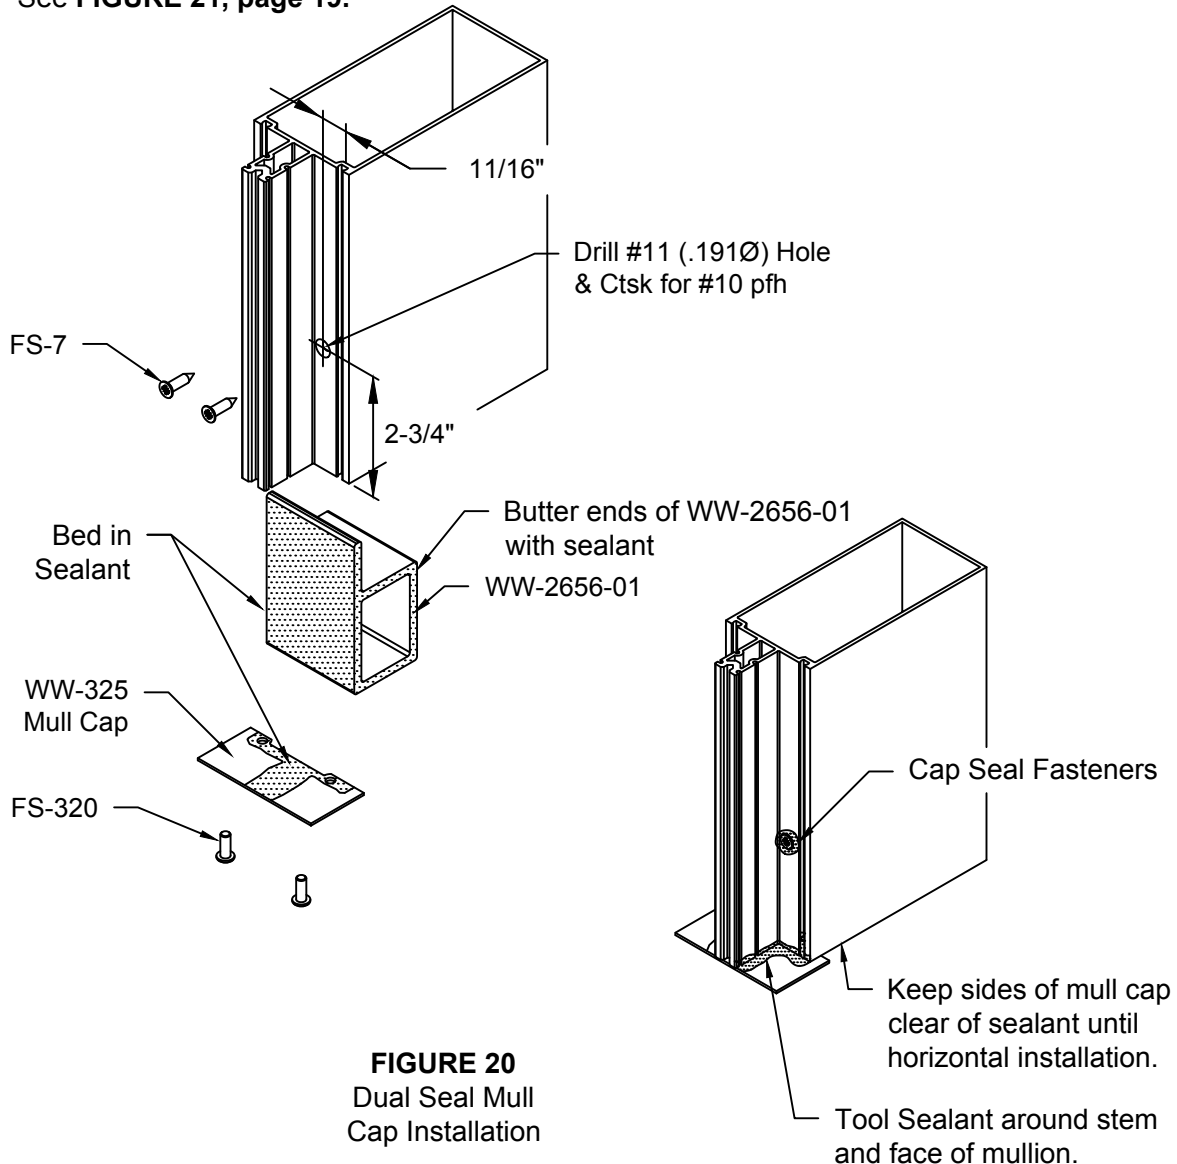

FIGURE 20
- 3.1 Drill two countersunk holes in face of mullion as shown in **FIGURE 20** for attachment WW-2656-01 Dual Seal load block. Apply sealant to face and ends of WW-2656-01 and insert into top and bottom of mullion at head and sill. Attach block with two FS-7 (#10 x $\frac{3}{4}$ " PFH) fasteners.